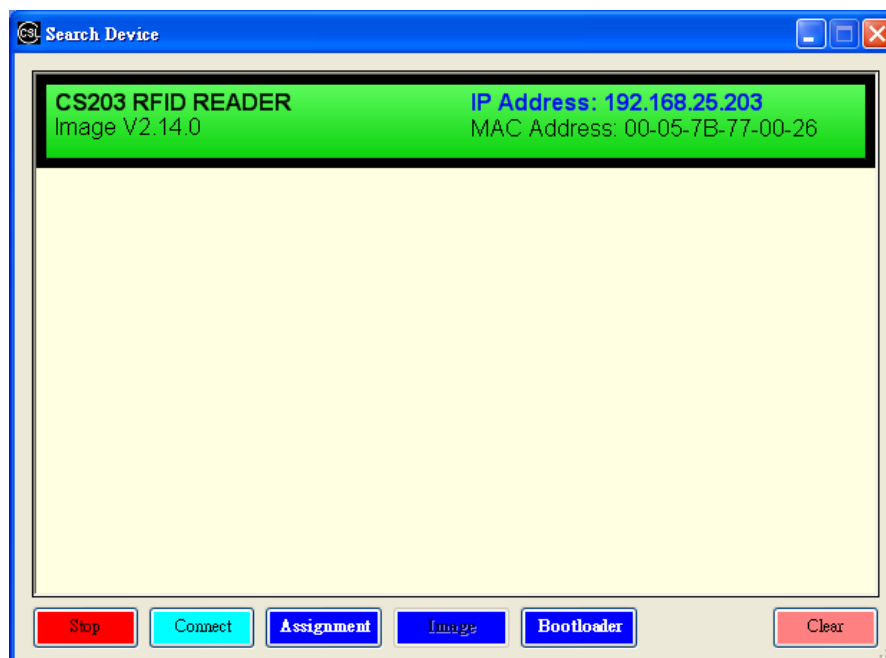

Fig. 5-2. Searching CS203
2. Available CS203 reader will be listed as shown in Fig. 5-2.